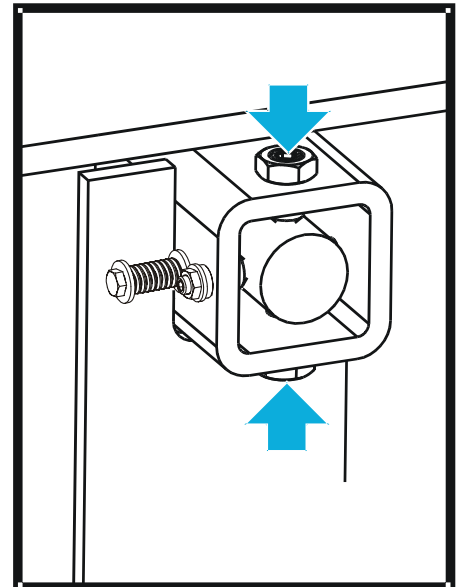

FIG. 6-3
**See Figure 6-3.** Use the vertical adjustment screws to adjust the drive-side blade wheel. To tilt the wheel, loosen the top adjustment screw one quarter turn. Loosen the jam nut on the bottom adjustment screw and tighten the screw. Tighten the top and bottom jam nuts.